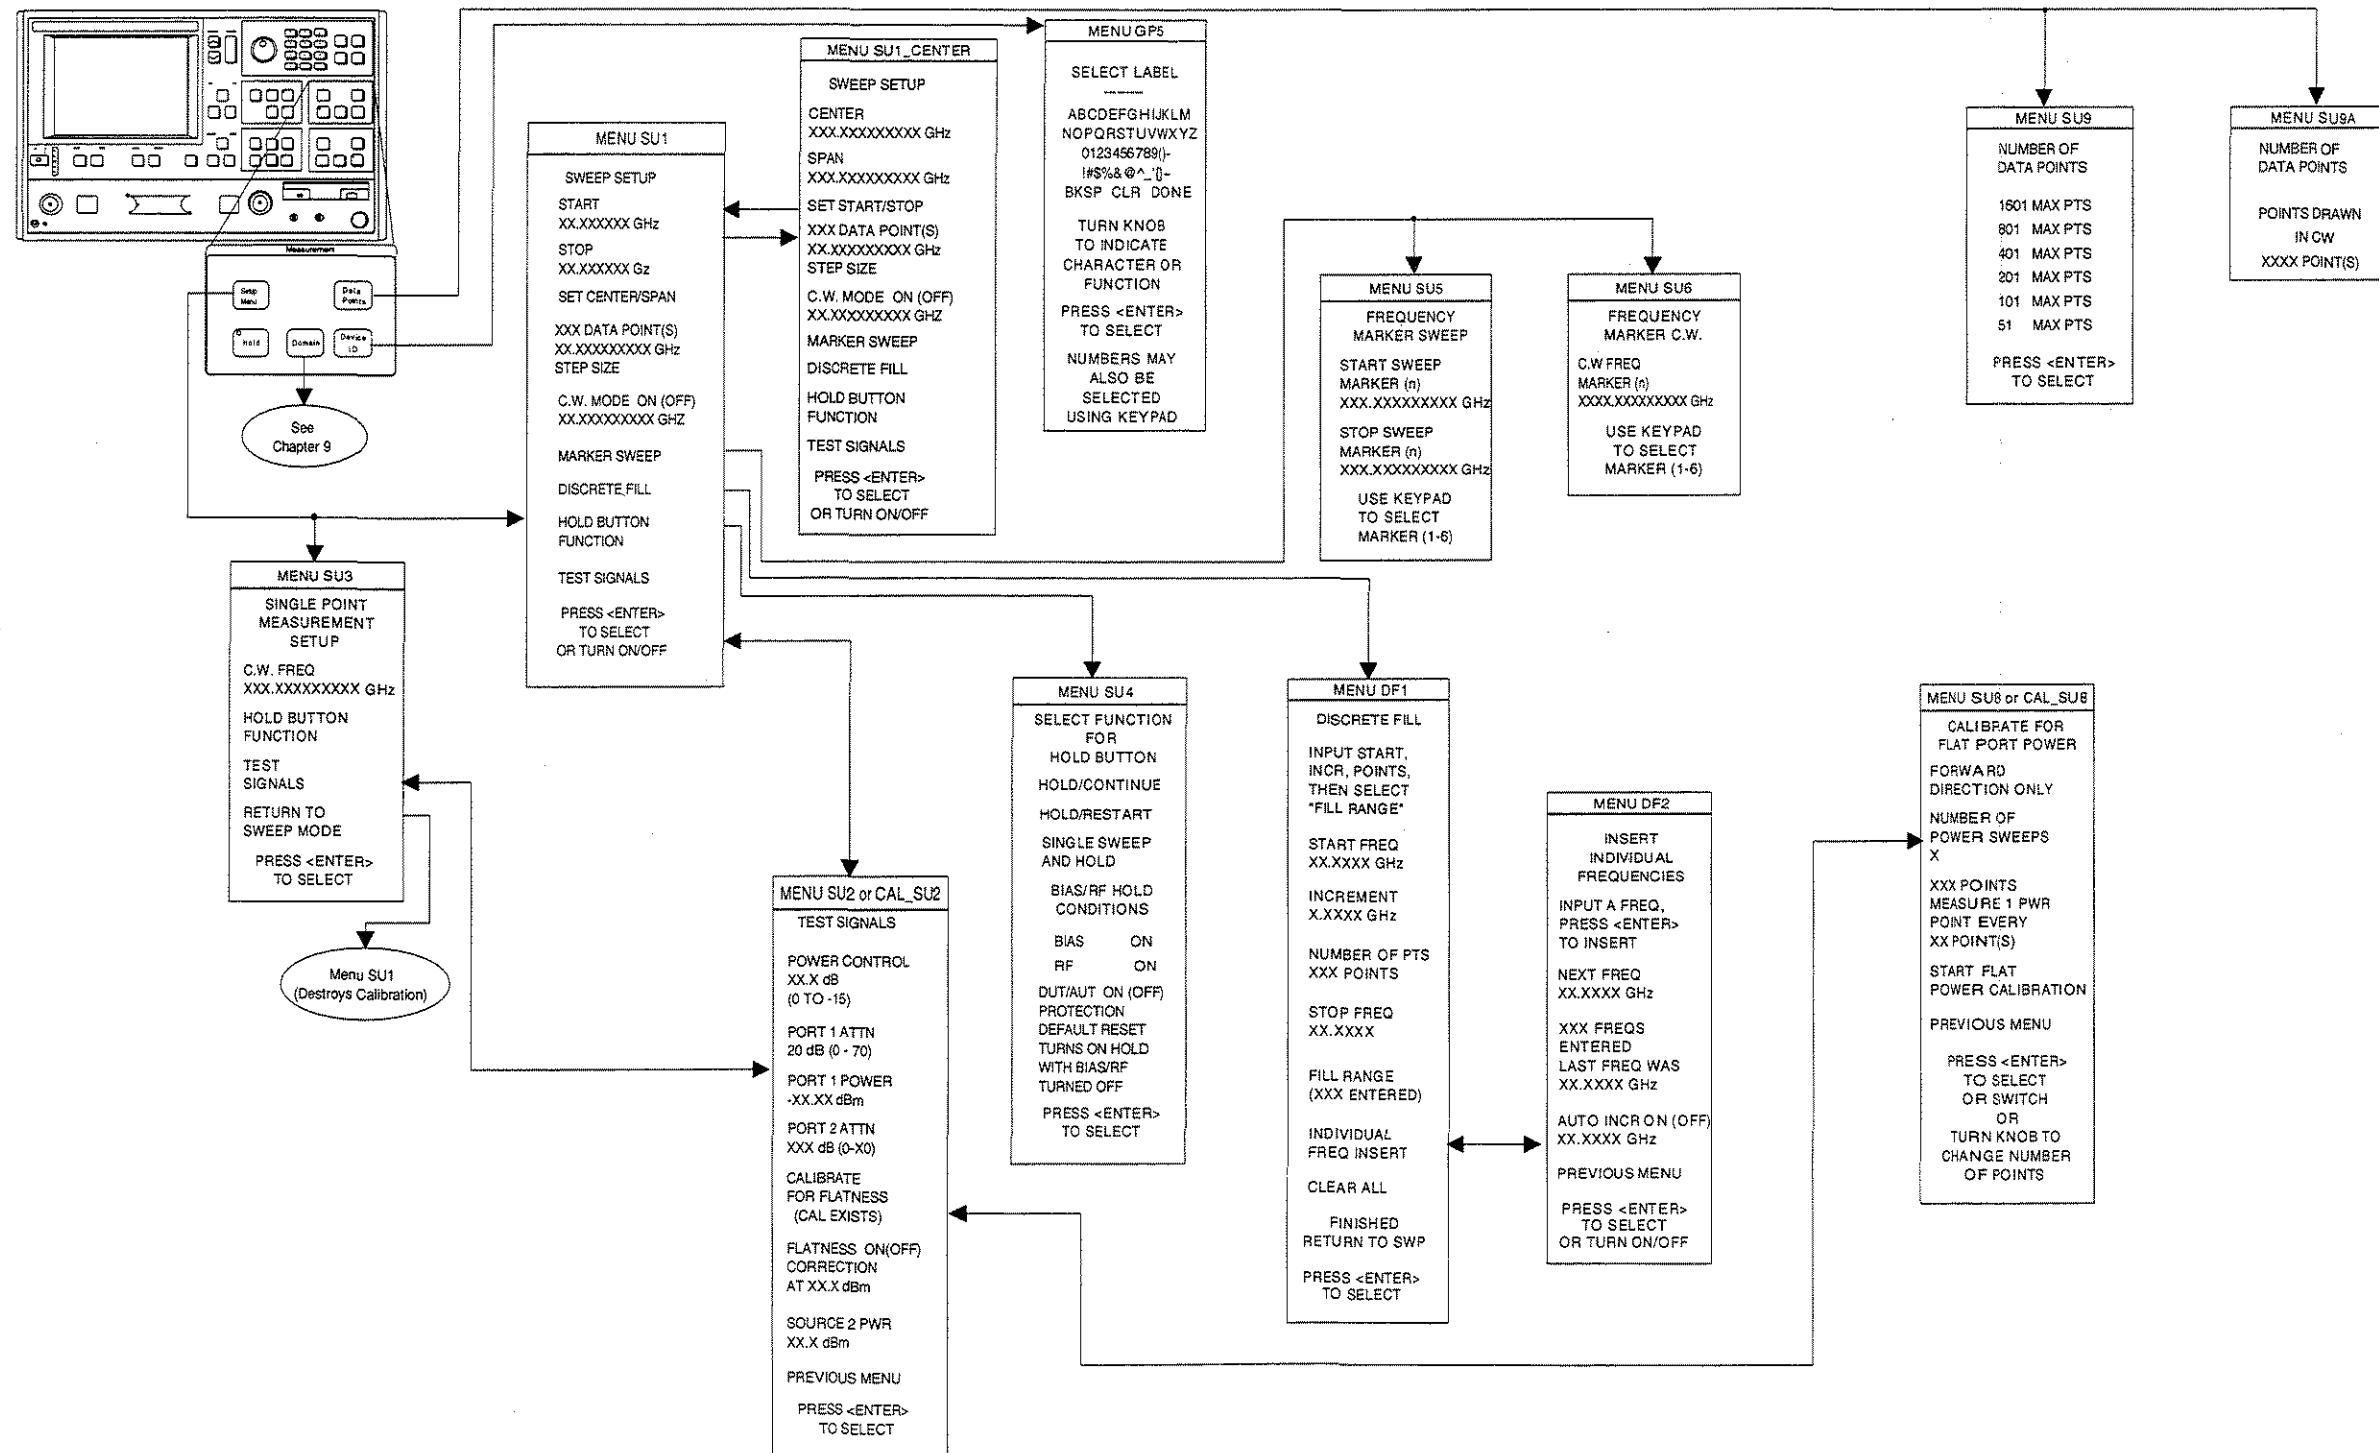

Figure B-6. Measurement Keys Menus
* Setup Menu SU1/SU3 – See Figure B-6
* Menu SU1/SU3 – See Figure B-6
The individual keys within the Measurement key-group are described below. Flowcharts of the Setup Key and Data Points key menus are shown in Figure B-6. As described for the calibration menus, the flow is left-to-right and the double arrowheaded lines indicate that the flow returns to the calling menu once a selection has been made.